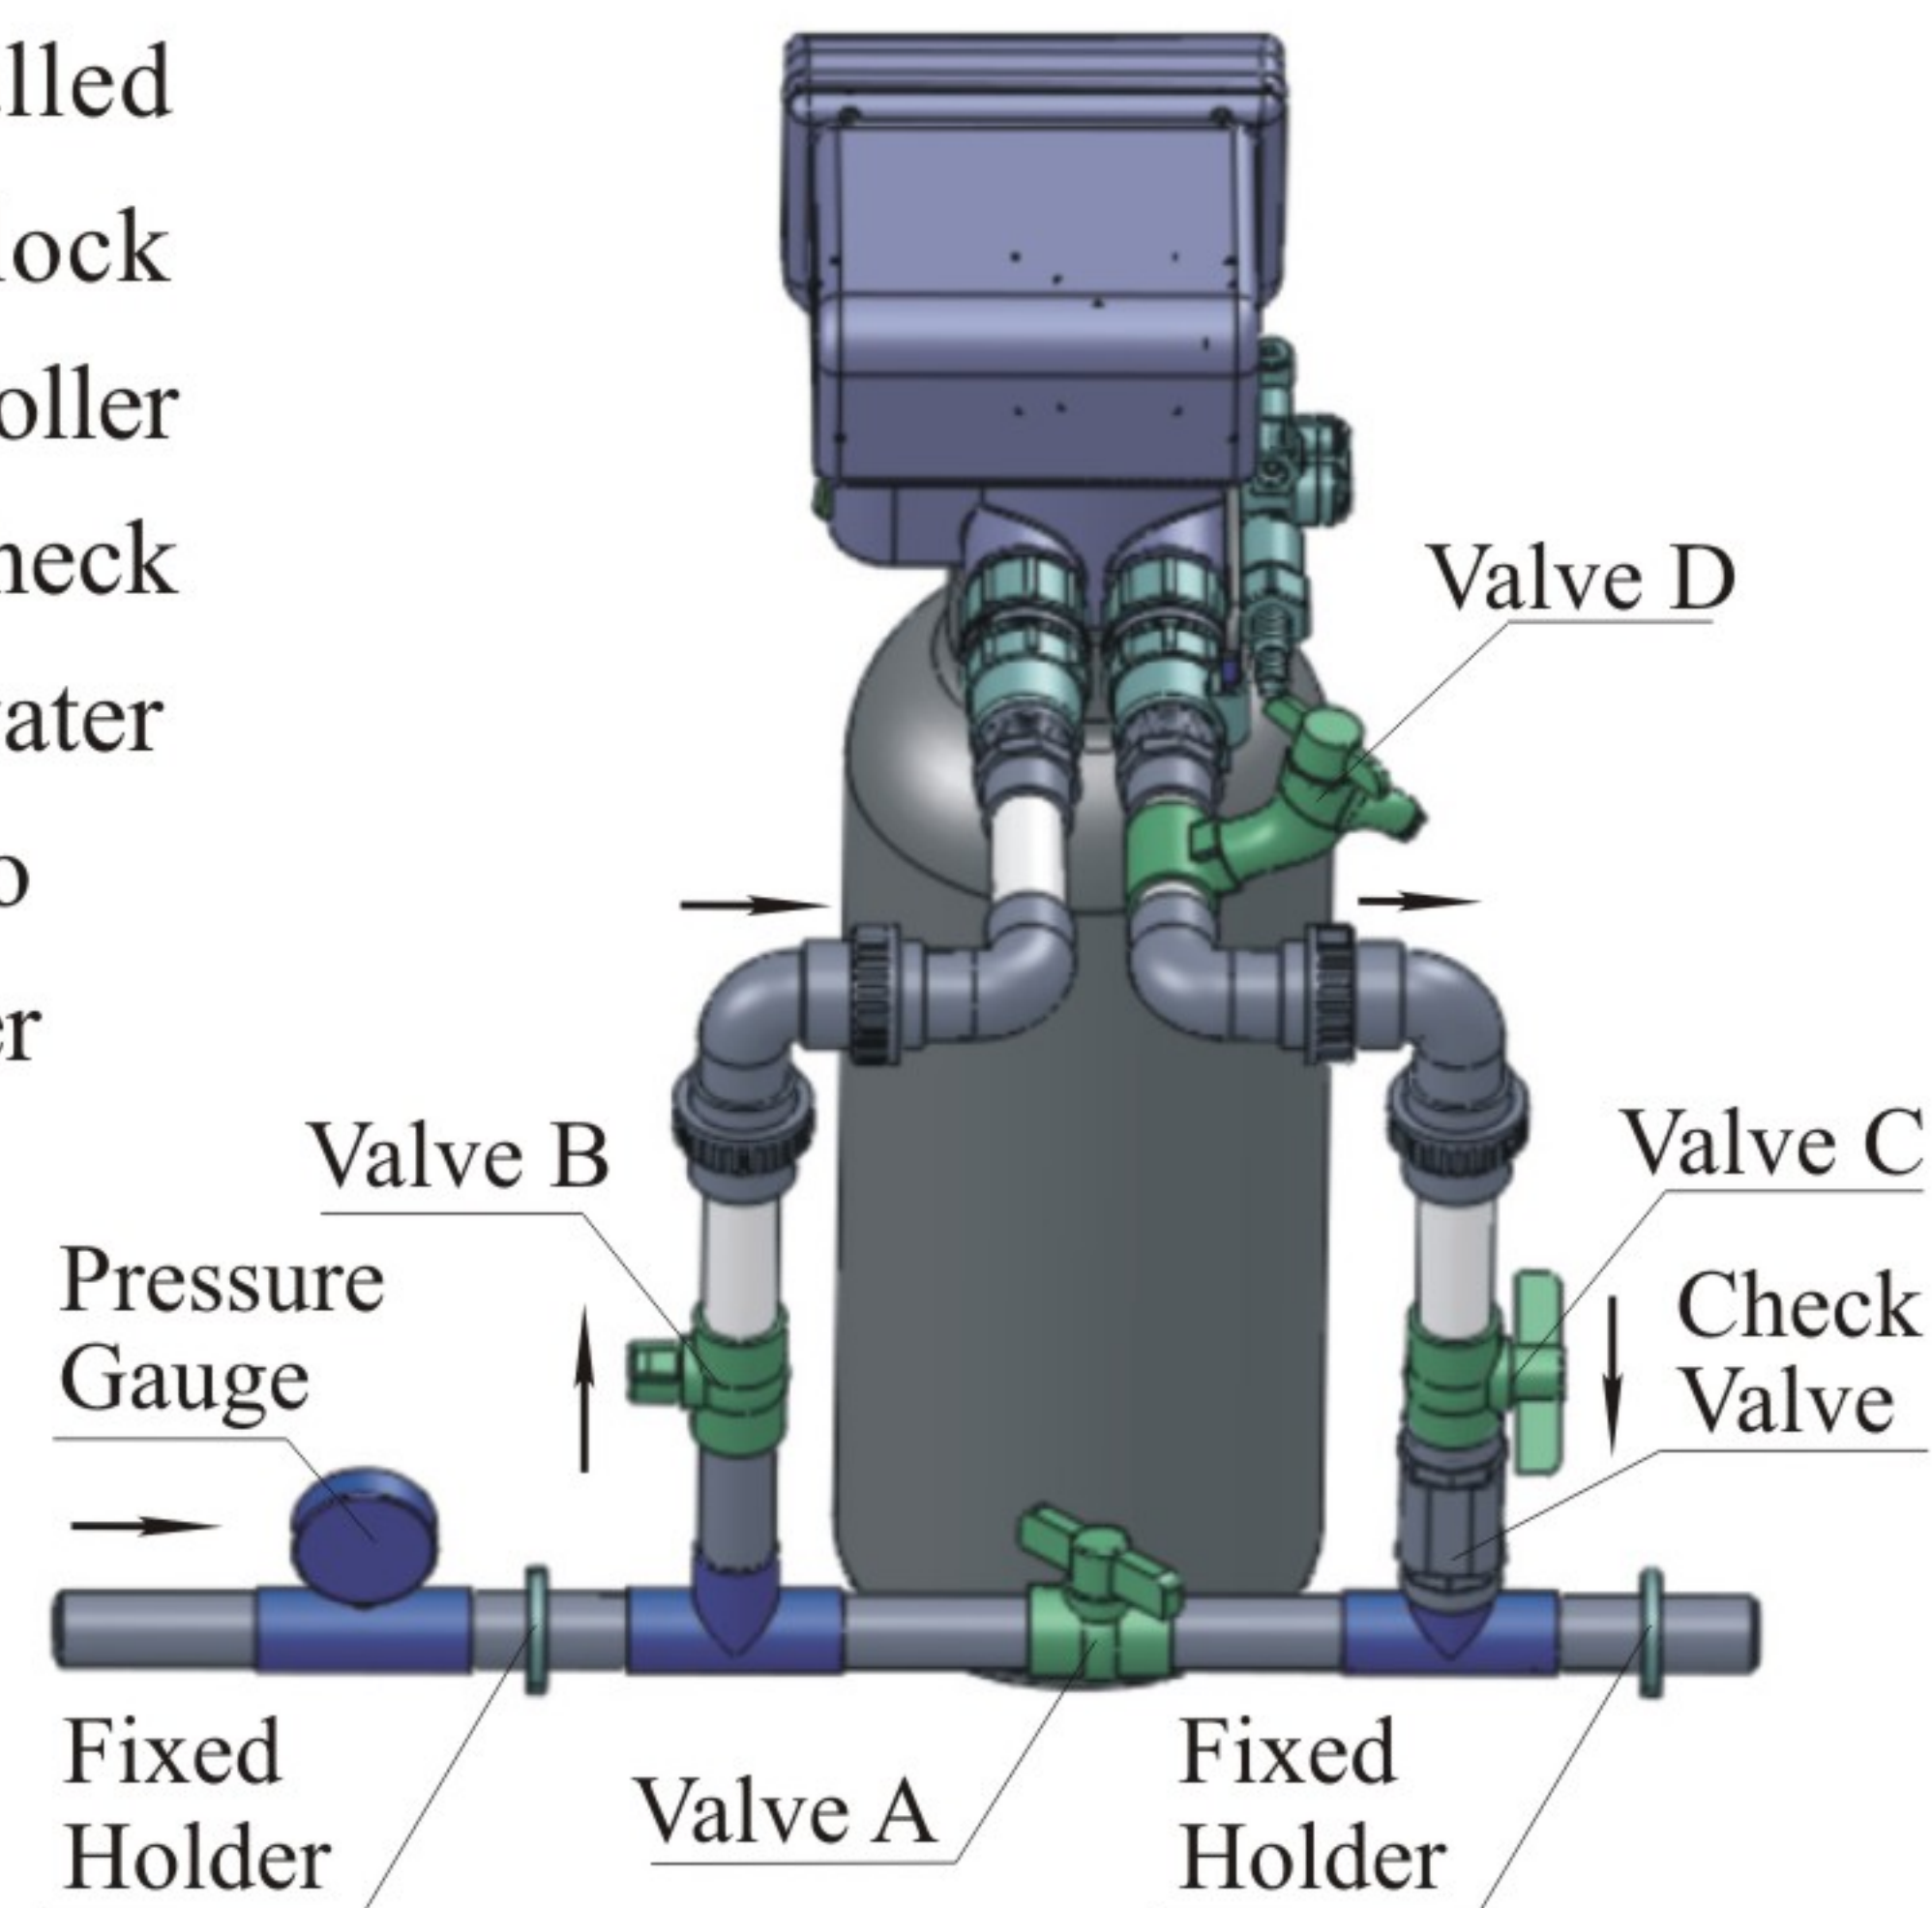

Figure 1-3
④Pipeline connection
- a. As Figure1-3 shows, install a pressure gauge in water inlet.